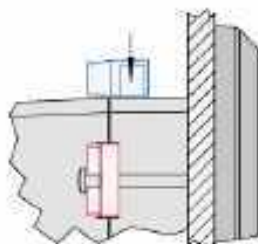

Fig. 15: Reattach terminals
7. Reattach the wire connection terminal strip (Fig. 15) and secure them with the side screws.